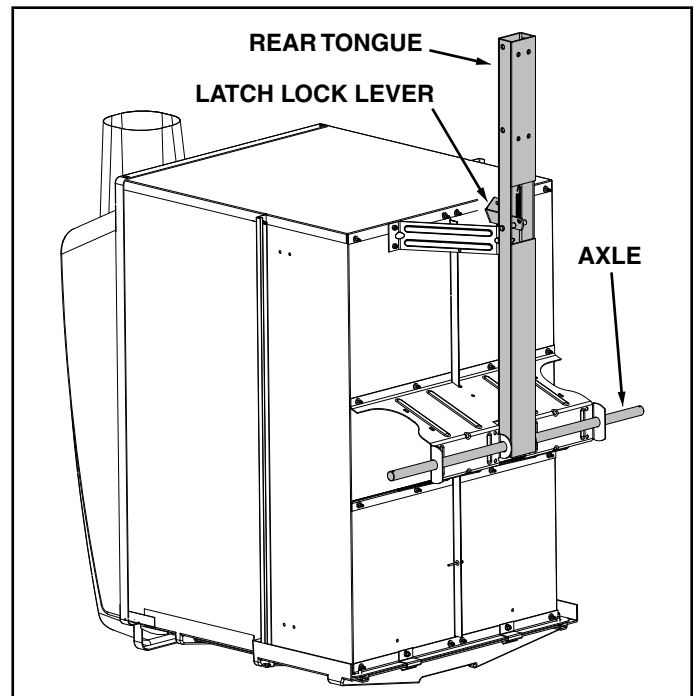

FIGURE 3
- 4. Install the rear tongue and the axle onto the cart body, sliding the axle through the wheel support and the tongue. Lock the tongue to the latch stand bracket with the foot pedal latch. See figure 3.